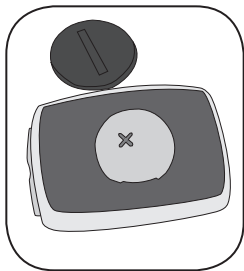

Figure 17- The 'cross' on the battery points up
- Insert the new battery with the 'cross' and identifying label pointing up (Figure 17).